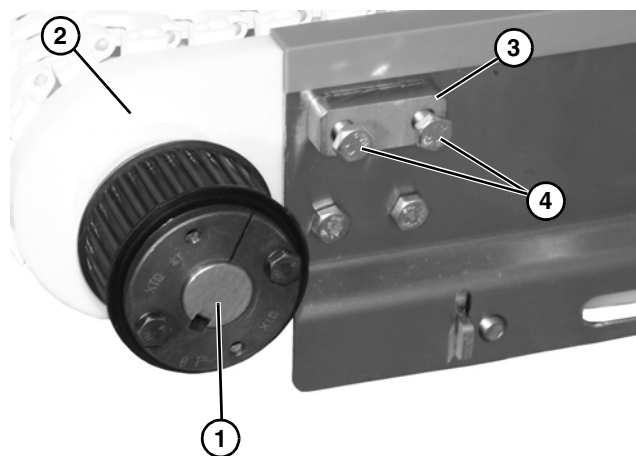

Figure 3
1. Locate drive output shaft (**Figure 3, item 1**). Remove top two existing bolts securing headplate (**Figure 3, item 2**) to conveyor frame.
2. Install spacer (**Figure 3, item 3**) and two longer bolts provided (**Figure 3, item 4**) into conveyor frame and headplate. Leave bolts loose with enough space to slide on mounting assembly.